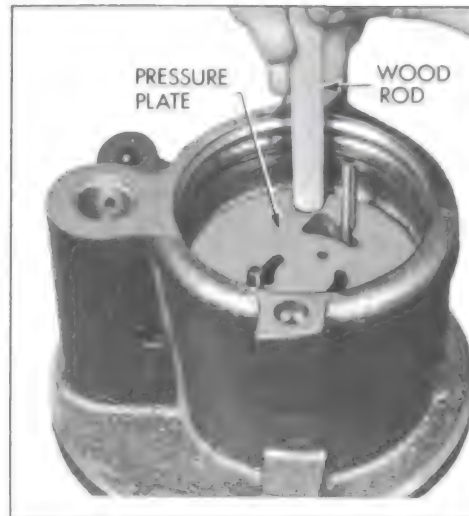

Figure 8-63—Seating Pressure Plate in Housing
9. Lubricate the outside diameter and chamfer of pressure plate with petroleum jelly and install on dowel pins with ported face toward pump ring. Dowel pins fit into slots in plate that are nearest outside diameter of plate. Use a soft plastic or wood rod and lightly tap around outside diameter of pressure plate to seat it. See Figure 8-63. Pressure plate will travel about 1/16" to seat. Never press or hammer on the